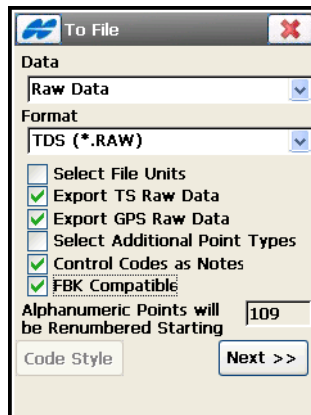

Figure 4-45. To TDS compatible with FBK
- *Control Codes as Notes* – check mark this box to export Control codes as notes. The *FBK Compatible* option becomes available for selection, and the Code Style button becomes inactive (see Figure 4-45 on page 4-40).
- *FBK Compatible* – when selected, the option demands points have only numeric names. The *Alphanumeric Points will be renumbered starting* field will appear (see Figure 4-45 on page 4-40).